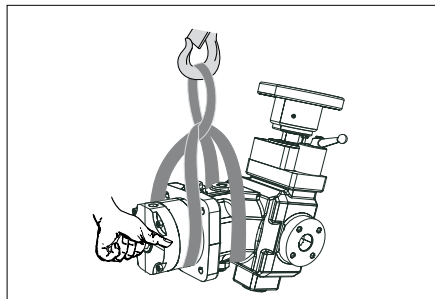

Fig. 6: Transport with lifting strap
- ▶ Place the lifting strap around the axial piston unit in such a way that it passes over neither the attachment parts (e.g. valves) nor such that the axial piston unit is hung from attachment parts (handwheel or clamping bracket) (see Fig. 6).